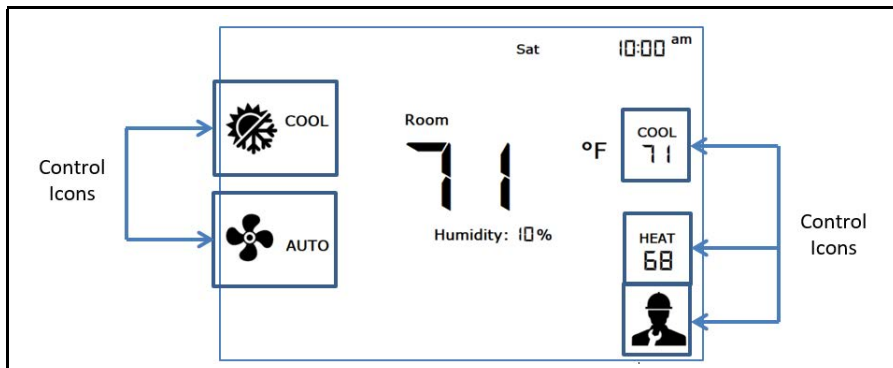

Figure 3-20 - Wake-up Display
- To access or wake-up the display, press anywhere on the screen (**Figure 3-20**). Control icons will appear on both right and left side of the display. The display will return to backlight off after about 30 seconds of inactivity on the touch display. This backlight off state is essential to avoid important temperature measurement shifts due to thermostat self-heating.